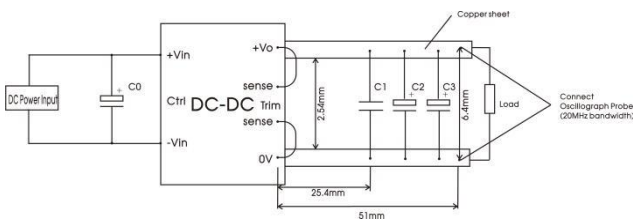

Fig.1
Note: ①The Ctrl pin voltage is referenced to input -Vin. ②Ripple & Noise for 48VDC output at 0%Io-100%Io load ≤ 400mV, others outputs at 0%Io -100%Io load ≤ 300mV, the measuring method of ripple and noise, please refer to Fig. 1 .
All the DC-DC converters of this series are tested before delivery using the recommended circuit shown in Fig. 1.